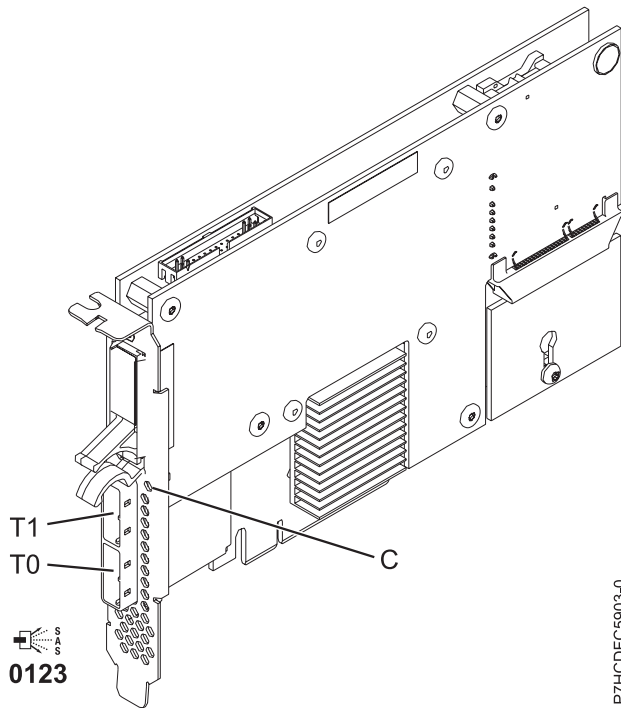

Figure 66. PCIe Dual - x4 3 Gb SAS RAID Adapter
The 5903 or 5805 contains a LED ((C) in Figure 66 on page 234) that flashes if the cache data is present. The cache-data present LED flashes when there is possible data in the cache on the adapter. If the cache data present LED is flashing, do not replace the cache battery pack. If replaced when the LED is flashing, the cache data is lost. See Figure 66 on page 234 to locate the cache-data present LED on this adapter.